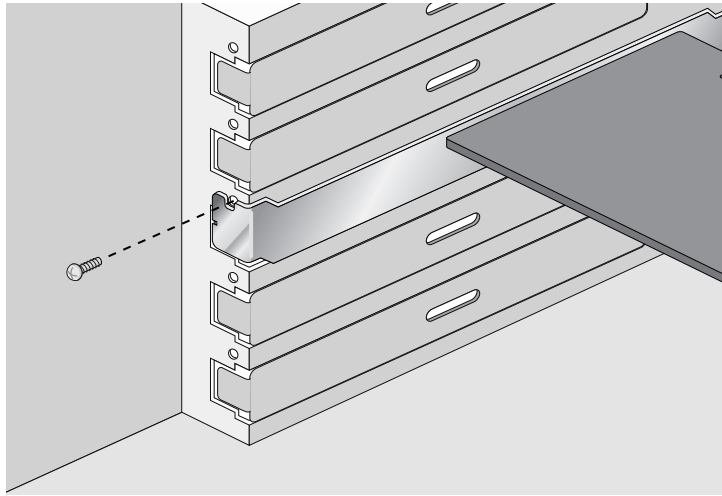

Figure 12. Securing the Network Adapter
6. Secure the network adapter to the chassis with a Phillips-head screw (not provided) as shown in Figure 12.